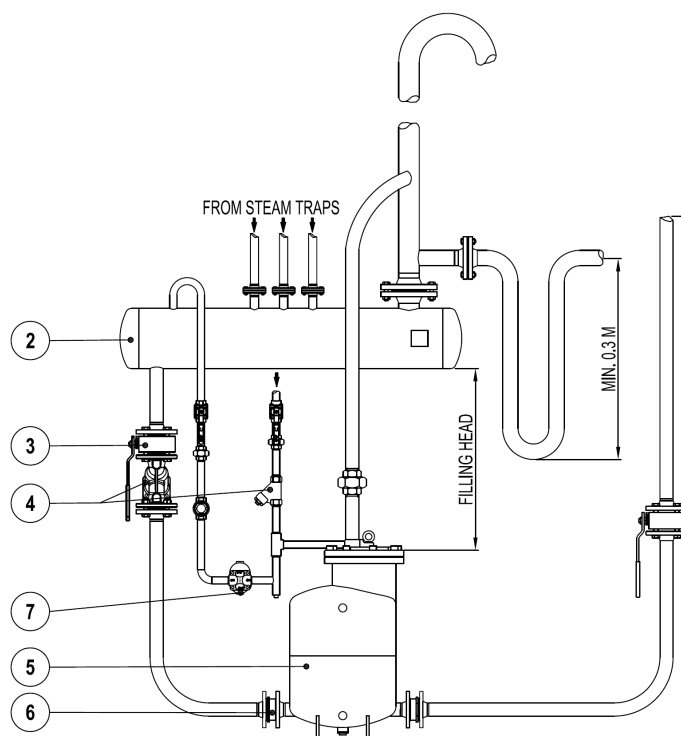

Fig. 1
**INSTALLATION:** Horizontal installation. An example is shown in Fig. 1. See IMI – Installation and maintenance instructions.
4. Available filling head (see Fig. 1) in mm or any other dimension that allows its determination.